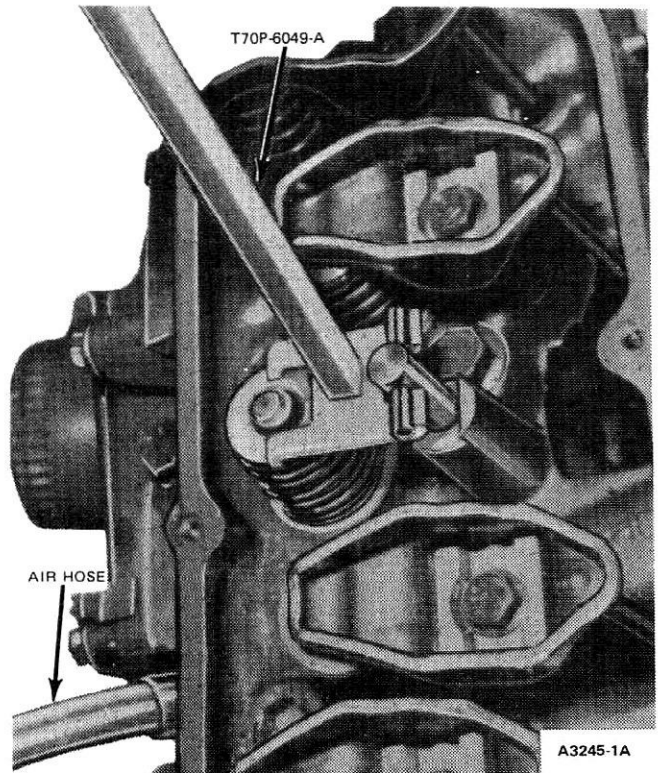
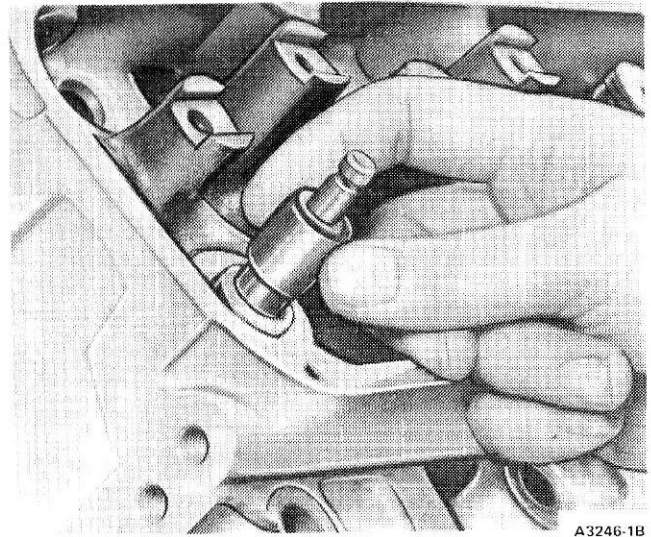

FIG. 11 Compressing Valve Spring—In Chassis
FIG. 12 Removing or Installing Valve Stem Seal
5. Install Tool T70P-6049-A (Fig. 11) and compress valve spring. Remove retainer locks, spring retainer, and spring. Remove and discard valve stem seal (Fig. 12). **If air pressure fails to hold valve in closed position, valve damage affecting sealing is indicated. Remove and inspect cylinder head assembly.**
2. Lubricate the valve stems with heavy engine oil SE. Install new valve stem seal (Fig. 12). Use a 5/8" deep socket and a light hammer or mallet to drive seal onto valve stem. Set spring and retainer over valve stem. Compress valve spring (Fig. 11) and install retainer locks. Release spring and remove tool and stud nut.